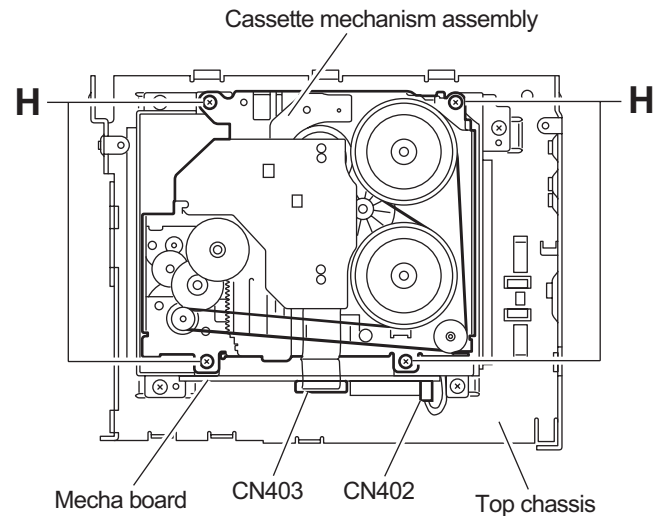

Fig.7
2.1.7 Removing the cassette mechanism assembly (See Fig.7)